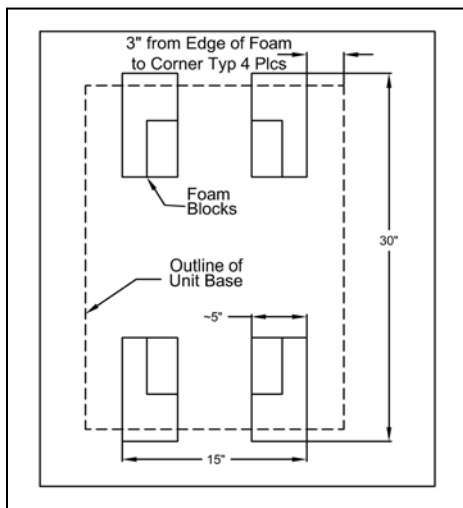

Figure 3-1
- b. Remove the four foam packing blocks from the upper packing assembly, and position them on a flat surface (such as the floor) in the pattern shown in Figure 3-1.
- c. Center the SteamChef™ on the blocks as shown in Figure 3-1 and 3-2.
- If the gas supply pressure exceeds 14" water column, a pressure regulating valve (pressure regulator) must be installed in gas supply plumbing to reduce pressure to the SteamChef. See Figure 3-1.
- a. Refer to Figure 3-1 for the recommended layout of the gas supply lines.